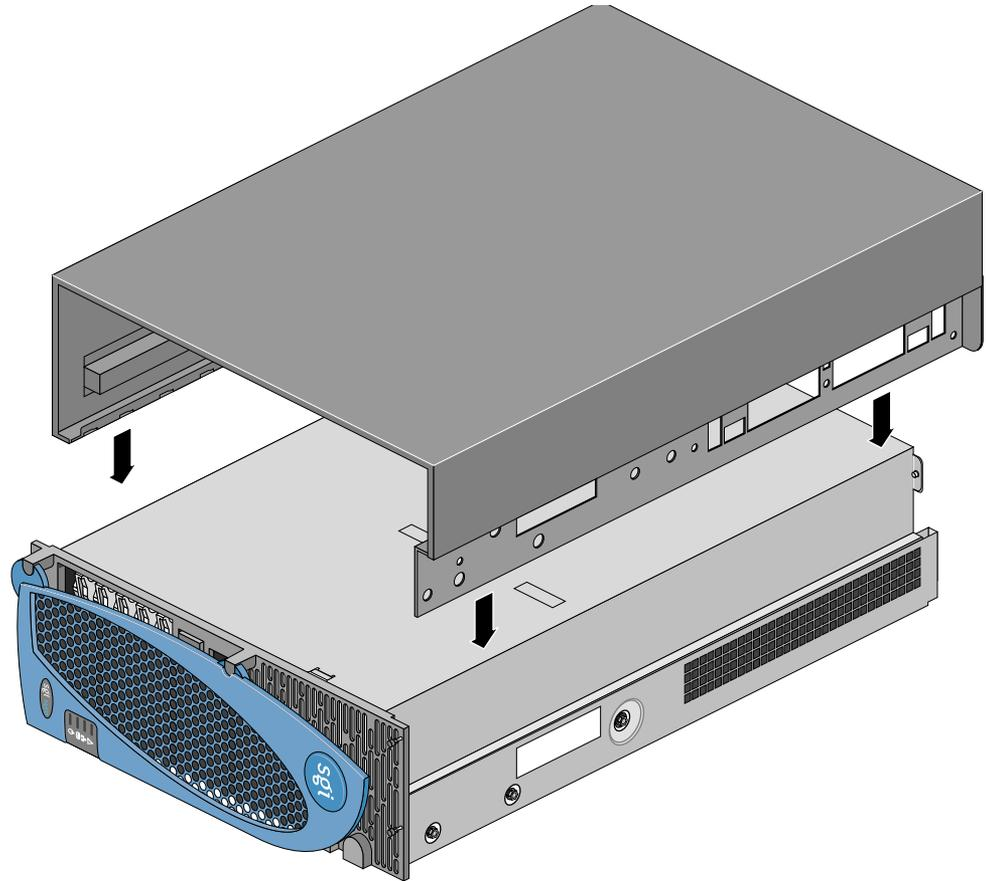

Figure 10 Sliding the Sheet Metal Casing onto the Server
1. Place the server upside down on a flat and stable surface. The front and top covers must be facing down (see Figure 10).
2. Slide the sheet metal casing onto the server, as shown in Figure 10. The narrowest side of the casing corresponds to the rear of the chassis.
3. Place the server upside down on a flat and stable surface. The front and top covers must be facing down (see Figure 10).